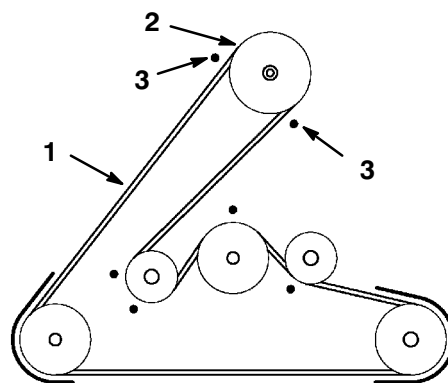

**Figure 41**
10. Remove the hair pin cotter and washer from the end of the long rod (Fig. 41). Slide the rod out of the mower mount.
11. Remove the hair pin cotter and washer at the mower leveling bracket (Fig. 41). Slide the bracket off the mounting pin. Re-install the washer and hairpin cotter for storage.